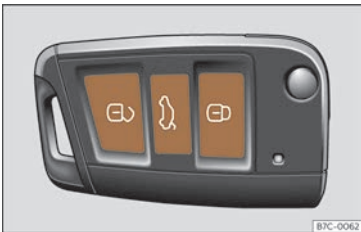

Fig. 48 Remote control key: keys.
- Lock: press the >>> **Fig. 48** button.